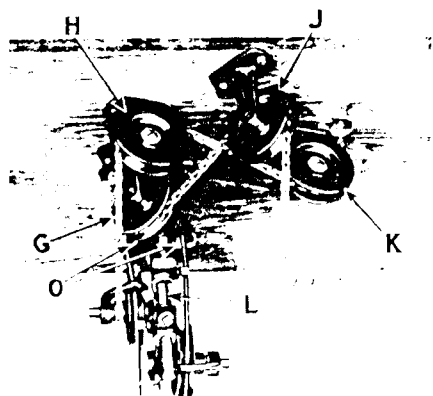
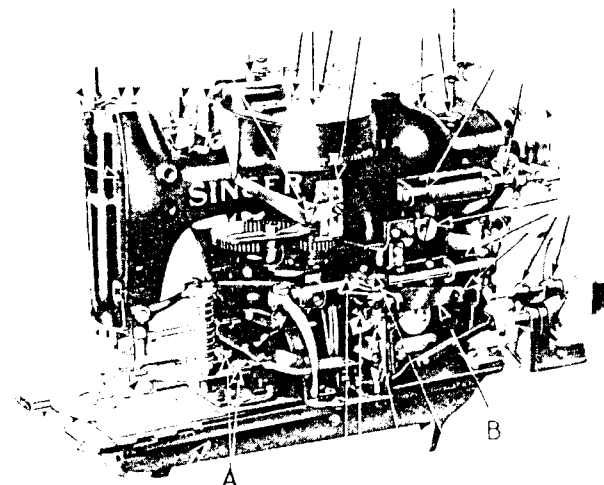
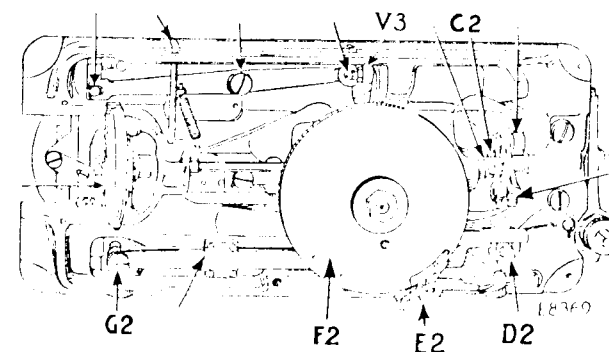

Fig. 2. Underside of Power Table, showing Belt and Chain Guides for Low Shaft Drive
Fig. 5. Oiling Points at the Right of the Machine Also Adjustments on the Machine
Fig. 6. Oiling Points in the Base of the Machine Also Adjustments on the Machine
The maximum speed recommended is 2000 stitches per minute. When the machines are in operation, the tight machine pulley should turn over to the left as indicated by the arrow in Fig. 5.
One hole should be bored for the chain to connect with the lever (B, Fig. 5) and another hole for the chain to connect with the starting lever (D2, Fig. 6).
There are four treadle chain pulleys (G, H, J and K, Fig. 2), each consisting of a bracket and a single pulley. Fasten one of these pulleys (K, Fig. 2) to the underside of the table directly below the clamp lifting lever (B, Fig. 5) and in line with the chain adjusting slide on the left hand treadle. Fasten the second pulley (H) to the underside of the table directly over the chain adjusting slide and in line with the first pulley (K). Fasten the pulley (G, Fig. 2) to the underside of the table directly below the starting lever (D2, Fig. 6) and in line with the chain adjusting slide on the right hand treadle. Fasten the fourth pulley (J, Fig. 2) to the underside of the table directly over the chain adjusting slide on the right hand treadle and in line with the pulley (G).
in the table and fasten to the clamp lifting lever (B, Fig. 5). Pass the second chain from the right treadle straight up and over the pulley (J) and under the pulley (G), then up through the hole in the table and fasten to the starting lever (D2, Fig. 6).
Two belt holes (O, Fig. 2) should be bored in the table directly below the tight machine pulley according to the location shown by the blueprint furnished with the machine and the belt idler (L, Fig. 2) mounted on the underside of the table directly below these two holes (O). The belt should be applied around the pulley on the shaft, around the idlers, up through the holes (O) in the table and around the machine pulley as instructed on page 19.
the places designated by the unmarked arrows in Figs. 5, 6, 7, 21 and 26. When the machine is in continuous use, it should be oiled regularly to ensure easy running and prevent unnecessary wear of the parts which are in movable contact.